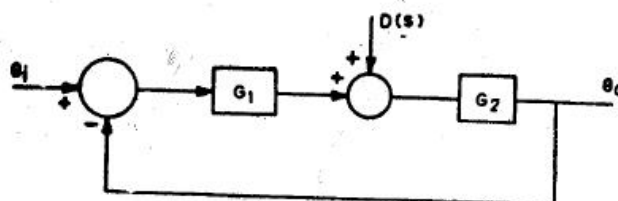

Fig. 1
- b) The control system demonstrated in Fig. 1 is subjected to a disturbance $D(s)$. Employ the principle of superposition to determine its effect on the output of the system.